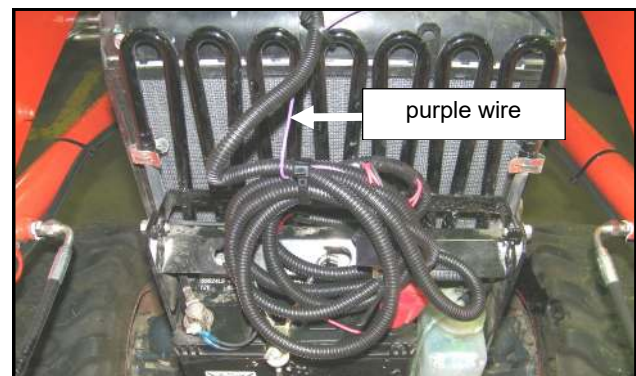

Fig. 9.4 (wire harness - engine bay of tractor)
9.4 Place the wire harness battery ring terminals near the battery terminals and secure the fuse and relay to factory wire tie mount with wire ties provided as shown. See fig. 9.4.
9.9 Coil up any excess of the switched power wiring harness near the battery and wire tie in place. Tighten all P-clips and wire ties. See fig. 9.4.